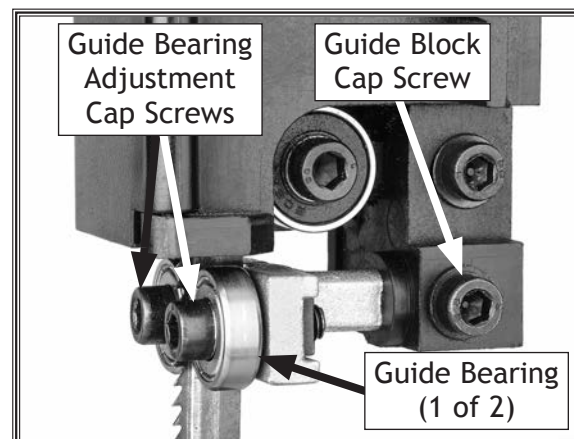
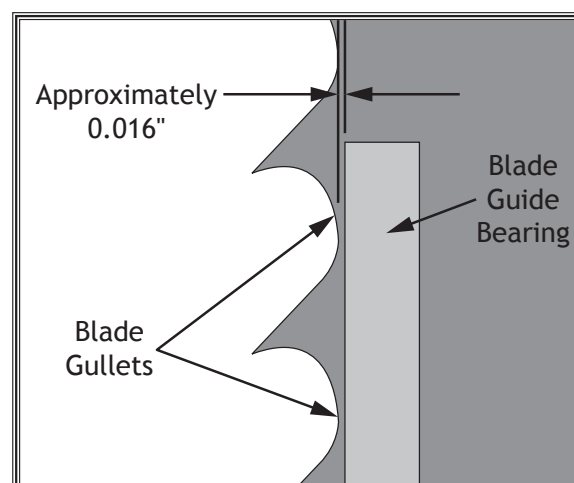
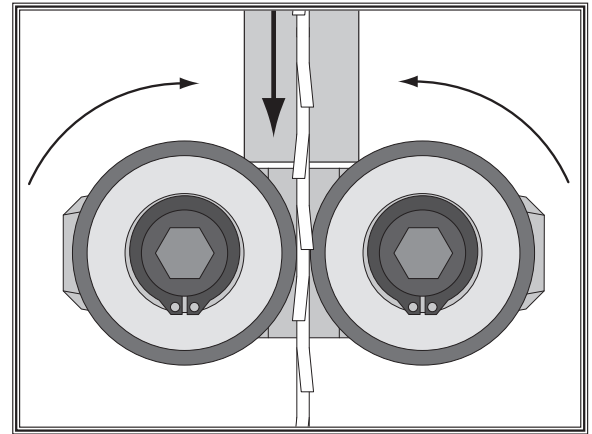

Figure 27. Upper guide bearing components.
Figure 28. Blade guide bearing positioned just behind blade gullets.
Figure 30. Blade guide bearings evenly and lightly touching the sides of the blade.
2. Loosen guide block cap screw shown in **Figure 27**, then laterally position guide bearings just behind blade gullets, as illustrated in **Figure 28**, then re-tighten cap screw to secure setting.
- Loosen both guide bearing adjustment cap screws (see **Figure 27**), then position guide bearings so they evenly and lightly touch sides of blade (see **Figure 30**) without deflecting it one way or the other.